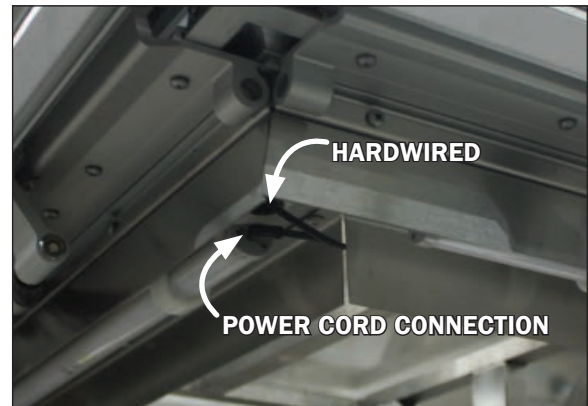

Fig. 5 Hardwired lighting and power cord connection
1. The LED lighting is hardwired so begin by unplugging the power cord at the end of the light (Fig.5).